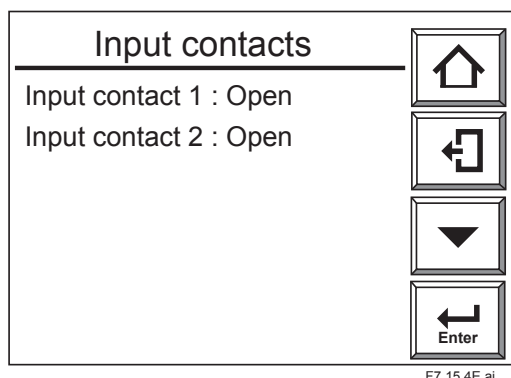

Figure 7.26 Input Contact Check Display
- (1) Referring to Section 7.11.1, display the contact check display.
- (2) Display the “Input contacts” check display as Figure 7.26 shows. The “Open” or “Closed” input contact in the display shows the current contact input terminal status and the display changes according to the contact status. Using this enables you to check that the wiring connections have been properly completed.